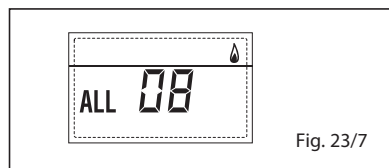

Fig. 23/7
– WATER CIRCULATION ANOMALY ALARM 09 (fig. 23/8)